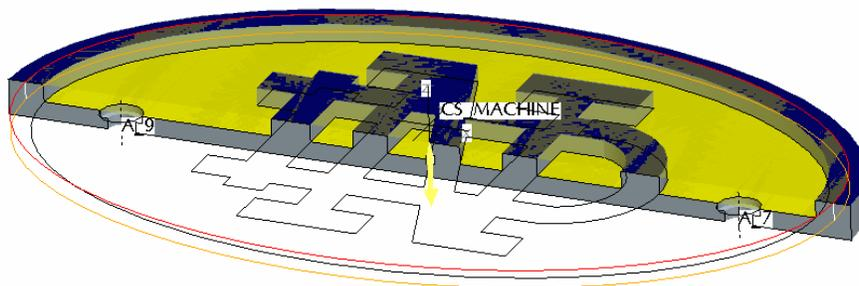

Figure 6: Extrude Depth and Direction
Step 5: Select  Extrude and extrude the “oval” section a BLIND distance of 0.125 inch or use the  UP TO SURFACE depth option and select the “yellow surface”. Make sure the extrude arrow points into the part! (Figure 6)